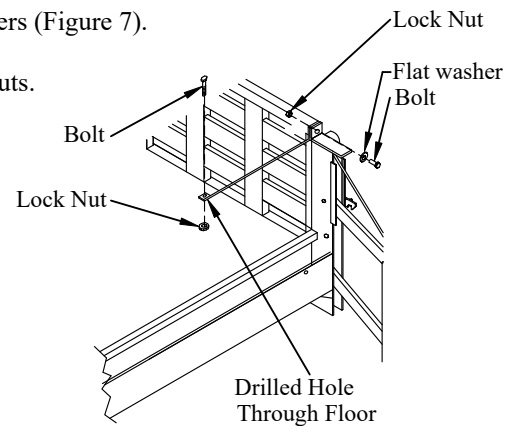

Figure 10: Flatbed and stake body top mounting ear.
2. **Insert** 1/2" bolts with flat washers through the mounting ears (Figure 10).
Position the straps so they go down to the floor (Figure 10).
5. **Drill** 1/2" holes through truck floor, using the strap holes as a guide (Figure 10).
6. **Bolt** the straps to the truck floor using the supplied 1/2" bolts and lock nuts (Figure 10).